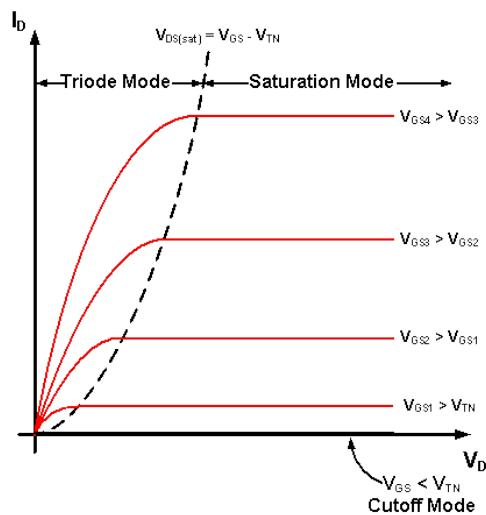

Figure 1.7: Three Operational Modes of MOSFET
MOSFET (Metal Oxide Semiconductor Field Effect Transistor) is a type of field-effect switch transistors that is used in many of today's applications. It consists of a Gate (G), Drain (D), and a Source (S). The switch has three modes of operations that work depending on its intended application, which are: Cutoff, Saturation, and Linear region shown in figure 1.7. The MOSFET is very important in electronics. They are used significantly in many applications, especially as Amplifiers in analog circuit and Electronic Switches in digital circuit.